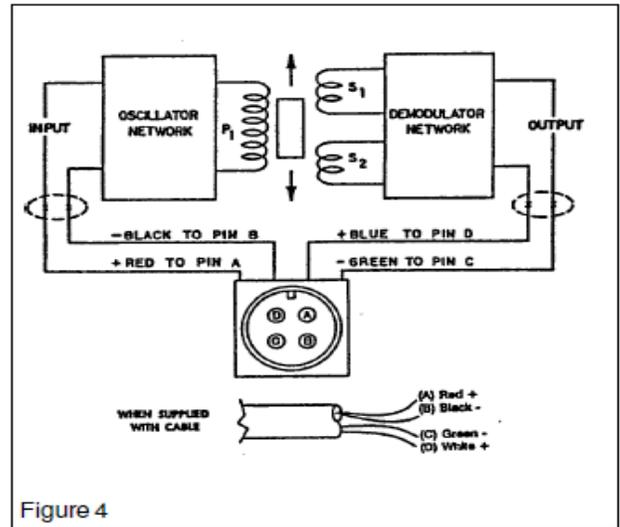

Figure 4
The electrical system consists of a Linear Variable Differential Transformer (LVDT) which converts the mechanical deflection of the Load Plate into a useful electrical output signal. (See Figure 4) The movable core of the LVDT is mechanically coupled to the Load Plate by means of the Core Adjust Assembly. (See Figure 4.) This adjustment is factory set and is not accessible.
As illustrated in Figure 4, a DC LVDT consists of the following components:
3. Observing correct polarity, connect the positive (+) input lead to Pin A and the negative (-) input lead to Pin B. (See Figure 4)
4. Connect the positive (+) output lead to Pin D and the negative (-) output lead to Pin C. (See Figure 4)
2. Connect a voltmeter to Pins C and D (See Figure 4)